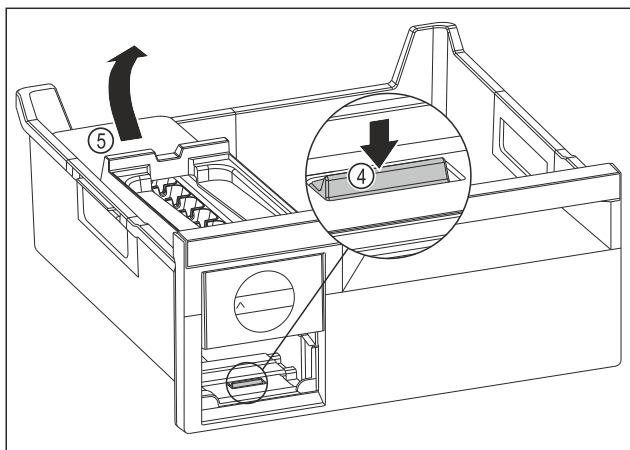

Fig. 77
- Removing the EasyTwist-Ice body: Use your finger to push the tab Fig. 77 (4) down and use your other hand to lift the EasyTwist-Ice body Fig. 77 (5) from behind at the same time.